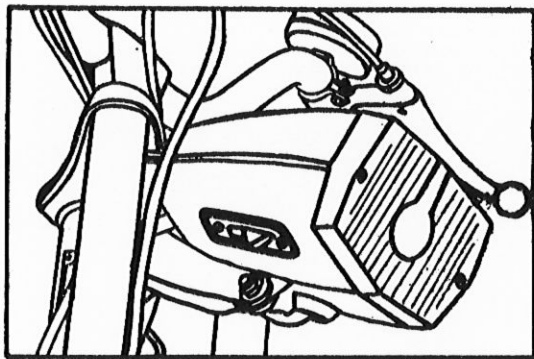

**Fig. 2 — Controls**
- a) Throttle twistgrip (1, Fig. 2), by the rotation of which the clutch is engaged or disengaged automatically while the throttle is opened or closed and thus the vehicle accelerates or decelerates;
- b) Front brake lever (2, Fig. 2) and rear brake lever (3, Fig. 2), by the depressing of which the vehicle is braked and stopped;
- c) Decompressor lever (4, Fig. 2), by the operation of which the engine is stopped or its starting facilitated;
- d) Buzzer push button (5, Fig. 2);
If it is necessary to apply the brakes, release the twist-grip and operate the brake levers (2, 3, Fig. 2). Proceed in the same way when stopping the machine. The clutch disengages as a result of the dropping r. p. m. and the engine idles. When riding on, the clutch operates again after opening the throttle. After having finished the trip, stop the engine by depressing the decompressor lever (4, Fig. 2) and shut off the fuel supply by turning the lever of the fuel cock (Fig. 4).